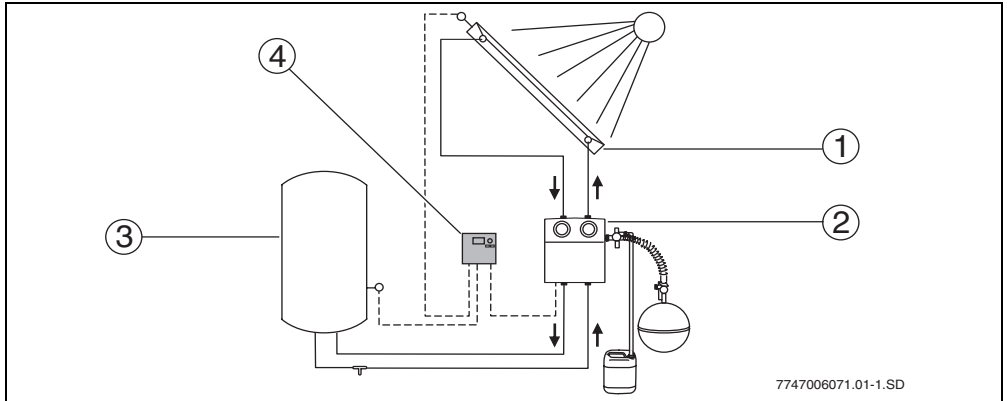

Fig. 3 System diagram
If the set temperature difference between the collector array (→ Fig. 3, item 1) and the storage cylinder (→ Fig. 3, item 3) is exceeded, the pump in the solar pumping station is switched on.